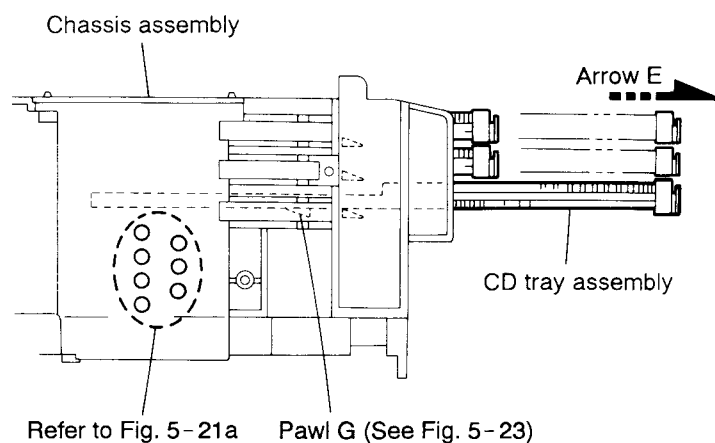

Fig. 5-20
14. Pull out all of the three stages of CD tray assembly in the arrow direction (E) until these stages stop (See Fig. 5-20).